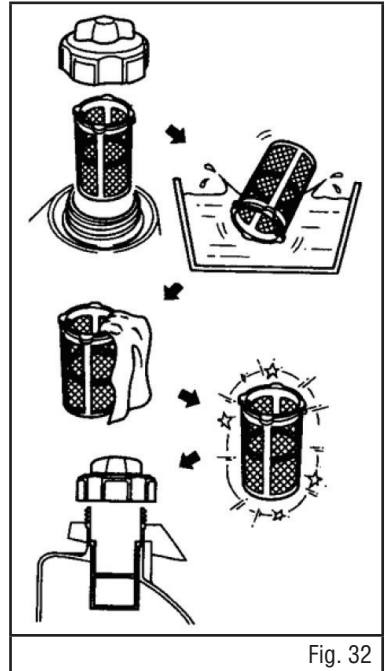

Fig. 32
1. Remove the fuel tank cap and filter. See figure 32